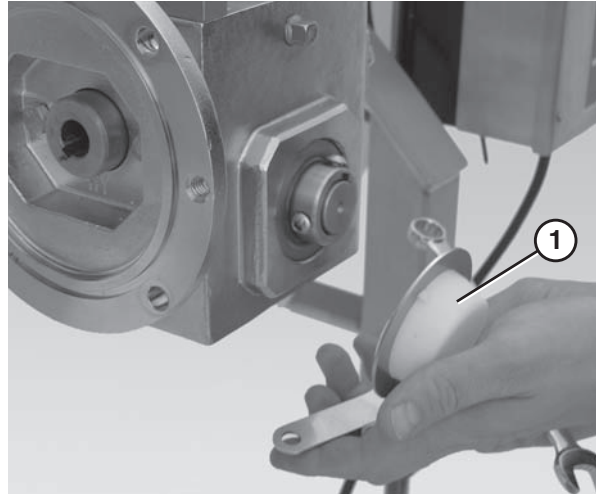

Figure 62
8. Remove the drive spindle cover (**Figure 62, item 1**).